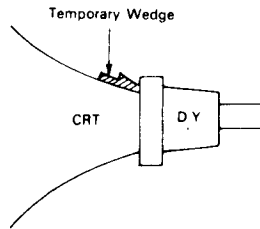

FIGURE 5
5. Move the two Purity Magnets and bring the Magenta belt to the mechanical center of the screen (See Fig. 5). The vertical center position should be set VRS to  $-5/64$ " ( $-2\text{mm}$ ) as shown in Fig. 6.
11. Insert the temporary wedge as shown in Fig. 5 and adjust the angle of Deflection Yoke.